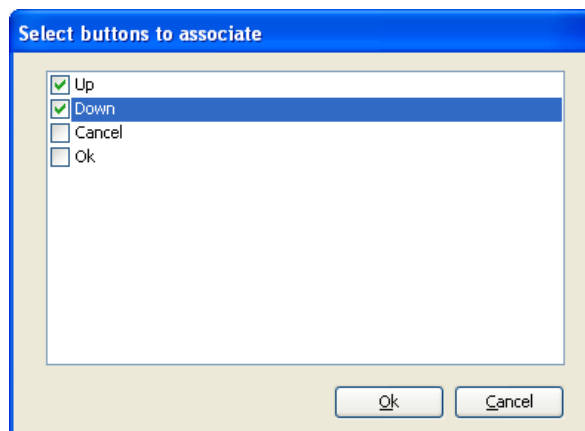

**Figure 161: Available Buttons for MUI**
1. Select Buttons. The Details Pane displays the available push buttons for the target user interface (Figure 160 and Figure 161).